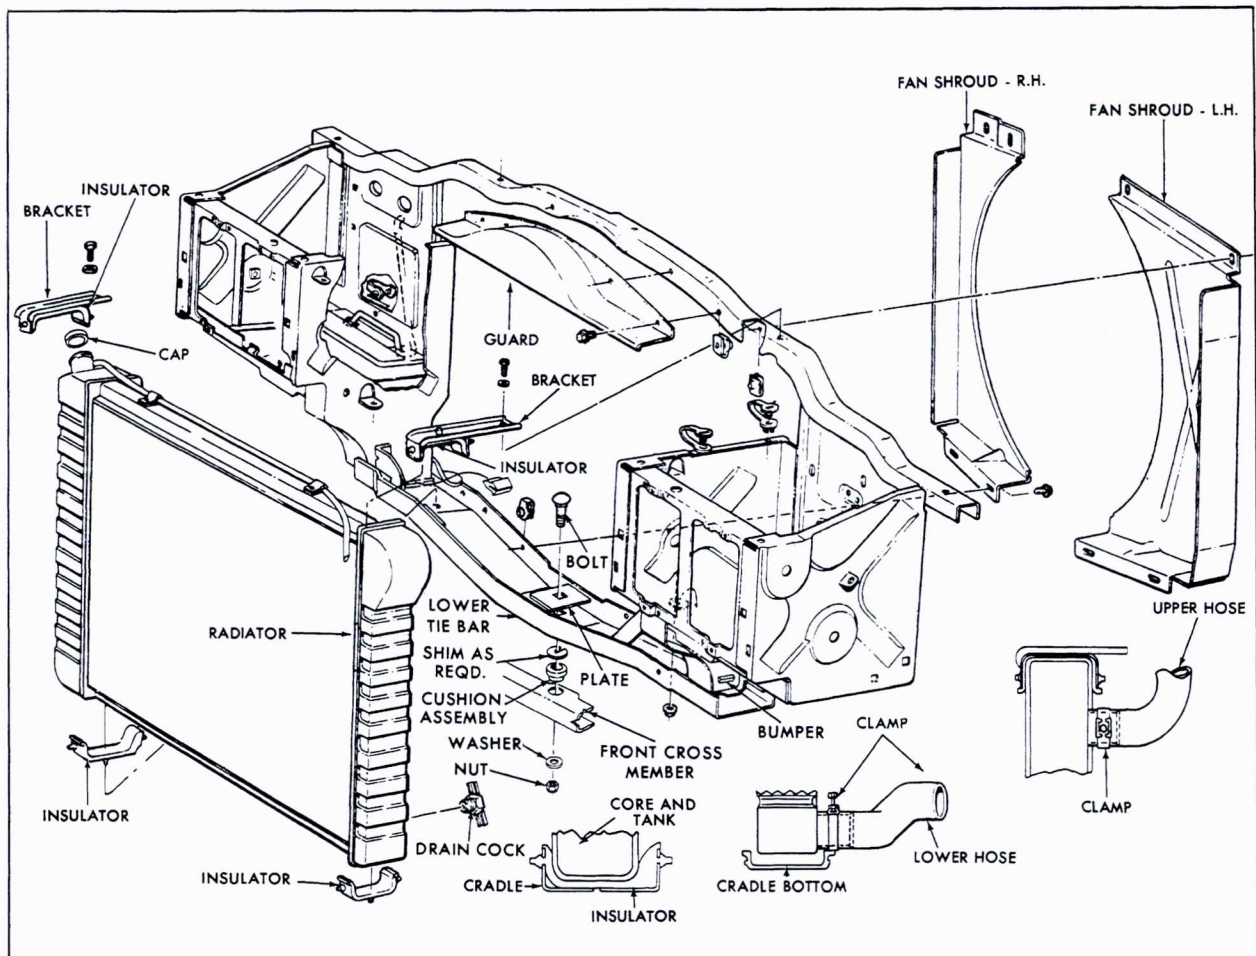

Fig. 13-6 Eldorado Radiator and Cradle Assy.
The radiator used in the Fleetwood Eldorado is similar to the radiator used in all other 1969 Cadillac cars, utilizing the cross-flow principle, Fig. 13-6. All recommendations and cautions that apply to the radiator used on other 1969 Cadillac cars should also be exercised when servicing the Eldorado radiator.
a. Removal (Fig. 13-6)
b. Installation (Fig. 13-6)
NOTE: The center cradle support, Fig. 13-6, is new for 1969. It incorporates a compression type rubber mount for improved noise and vibration isolation. The number of shims required is determined by the proper alignment of the front sheet metal to the body shown in Fig. 11-10. After sheet metal alignment is achieved, attempt to rotate the pad between the cradle and the frame. If the pad can be rotated with the fingers, add shims until pad can no longer be rotated.